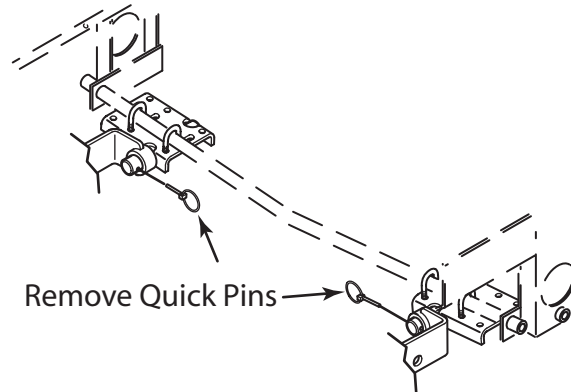

FIGURE 2-3
4. Once the Tiger Striper is locked in the transport position, remove the quick pins securing the Tiger Striper to the mounting brackets. See Figure 2-3